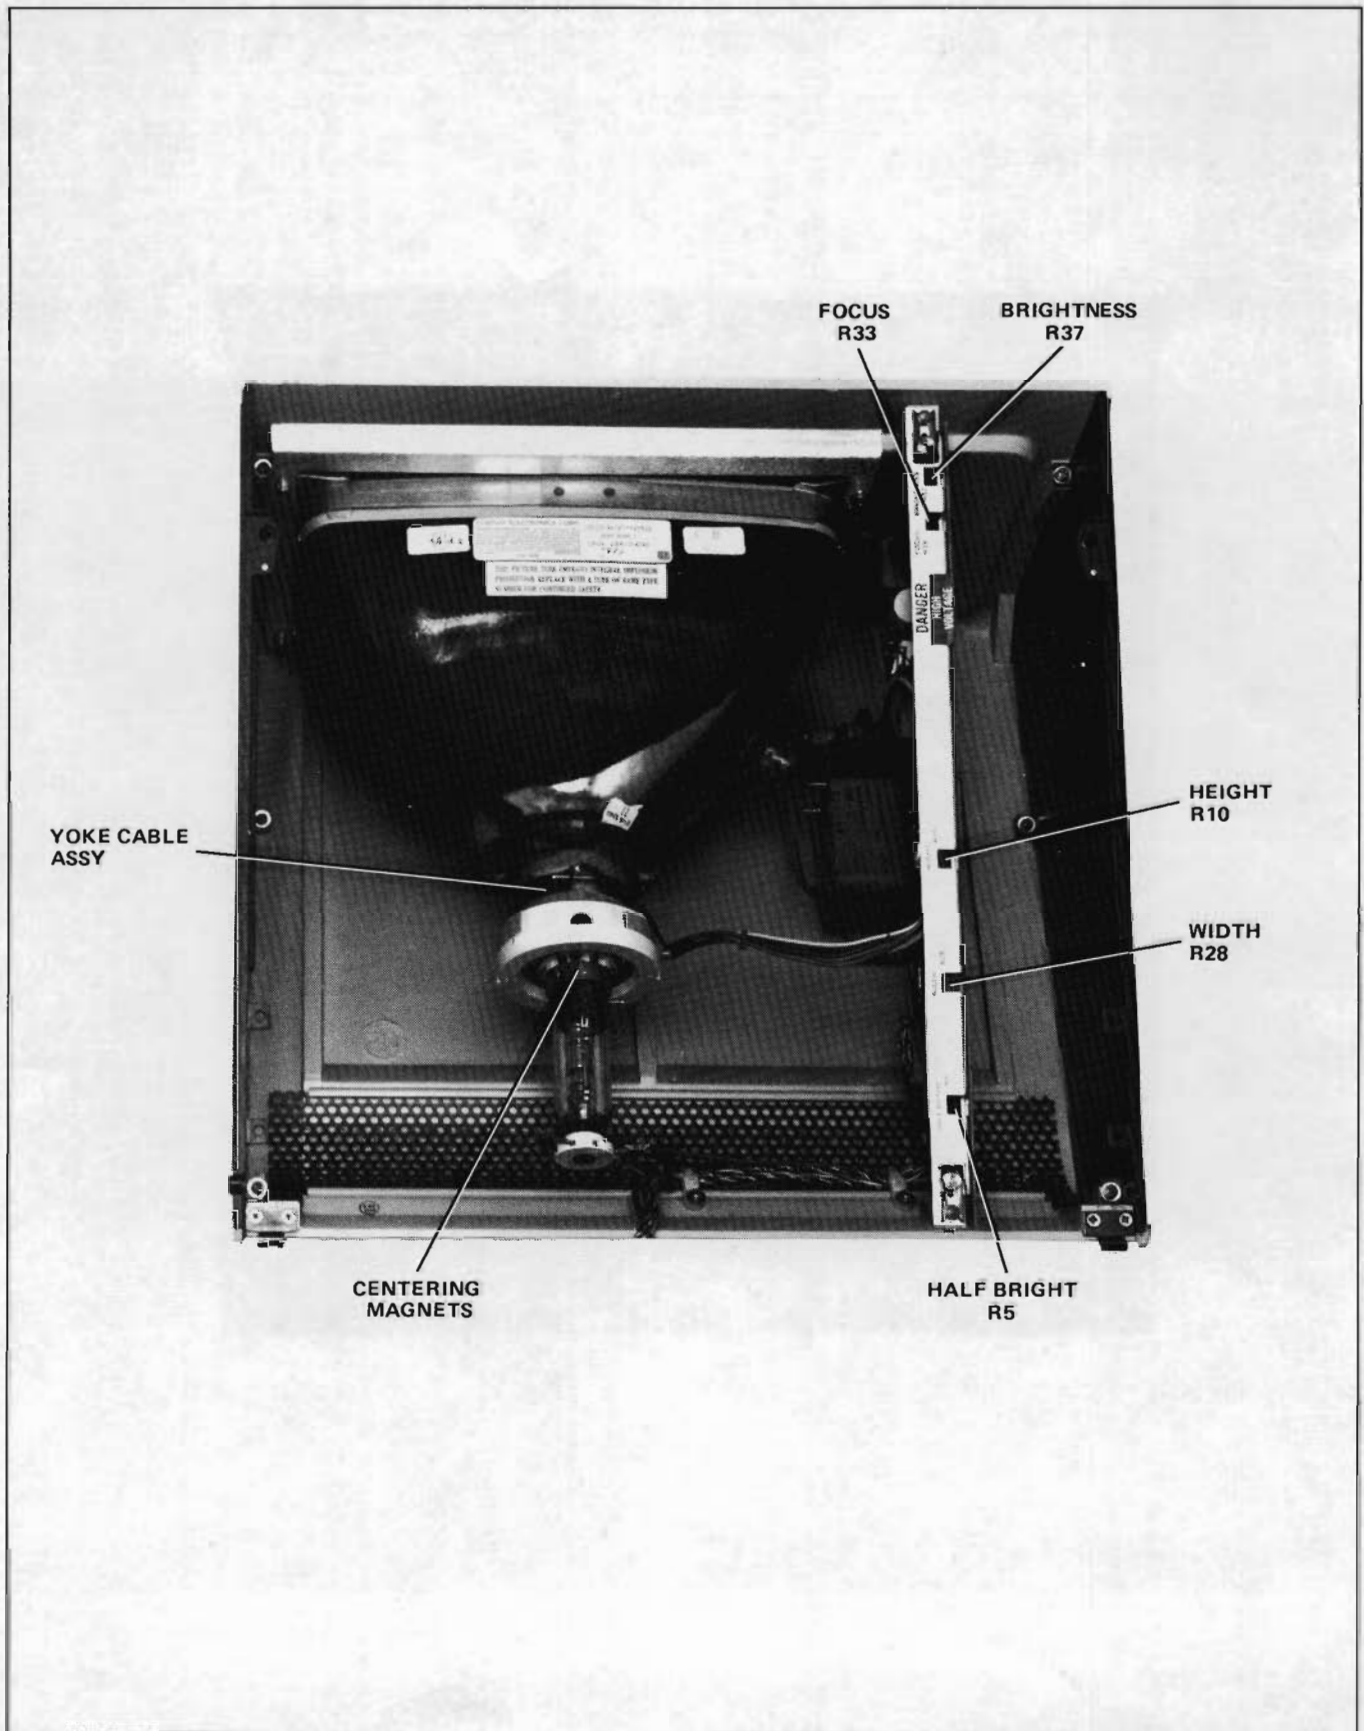

Figure 3-3. Mainframe Top Adjustment Locations
Due to product design, these adjustments seldom need be performed. However, minor adjustment can be made to each potentiometer (see figure 3-3) to suit individual preferences by opening the terminal mainframe to its half open position in accordance with paragraph 1-2, removing the CRT shield (see figure 1-2), energizing the terminal, and adjusting the applicable potentiometer for the desired display appearance. If extensive repair or replacement procedures have been performed on the terminal, it is suggested that the adjustment procedure below be performed in its entirety to ensure optimum terminal performance.
- j. Adjust BRIGHTNESS R37 (see figure 3-3) for desired display brightness.
- n. Adjust FOCUS R33 (see figure 3-3) for best overall display sharpness.
- j. The monitor should display an inverse video rectangular pattern. If no pattern is displayed, adjust BRIGHTNESS R37 (see figure 3-3) until pattern is displayed. If this step is required, perform brightness and focus adjustments in accordance with paragraph 3-10 after completing raster alignment and adjustment procedures.
- k. Rotate Yoke Cable Assembly (see figure 3-3) until displayed rectangle is horizontal and parallel to monitor frame.